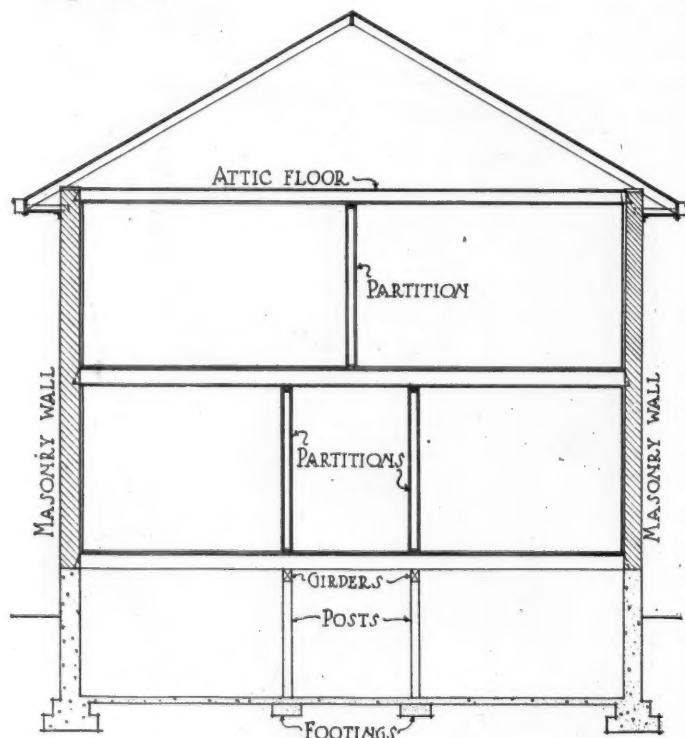

Fig. 57. Section through Building, Showing Floors and Location of Partitions.
“**A**T our last Talk,” said the Boss, “I told you fellows how to find the amount of load carried by the joists in a floor, and also how to determine the load carried by the main girders or beams when that type of construction is used. This time I am going to go ahead and tell you how to find the size of the joists and girders in a building such as is shown in Fig. 57. We will use yellow pine in this case, but joists and beams of any other kind of timber would be figured in just the same way, except in the use of a different value for the strength of the material itself.
“In the building shown in Fig. 57,” said the Boss, “the rooms on the first floor are 12 feet wide and the hall is 8 feet wide. This will make it possible to use either three separate sets of floor joists on this floor—two of the sets 12 feet long in the clear and the other set 8 feet in the clear, with ends overlapping on the girders—or two sets of joists with one long and one short set overlapping over the girders. In this latter arrangement it would be advisable to stagger the joists so that the joints will alternate on the two carrying girders.
"If a partition is supported at or very near to the center of a series of short beams as shown in Fig. 57, then formula (A) is changed as follows: